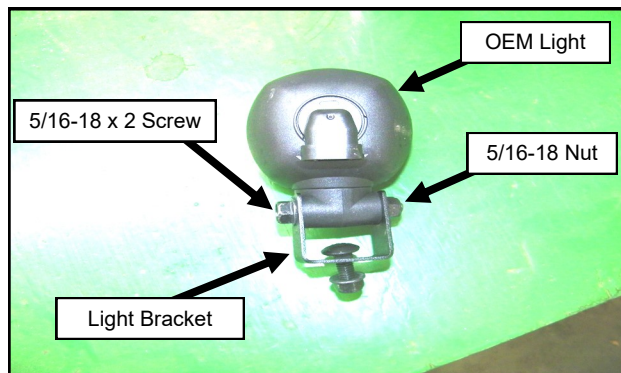

Fig. 18.1 (Pre-Assemble OEM Side Lights)
18.1 Pre-assemble the light brackets onto the OEM fender lights. See Figure 18.1. The carriage screw must be pre-installed in the bracket before the light is mounted for clearance purposes.